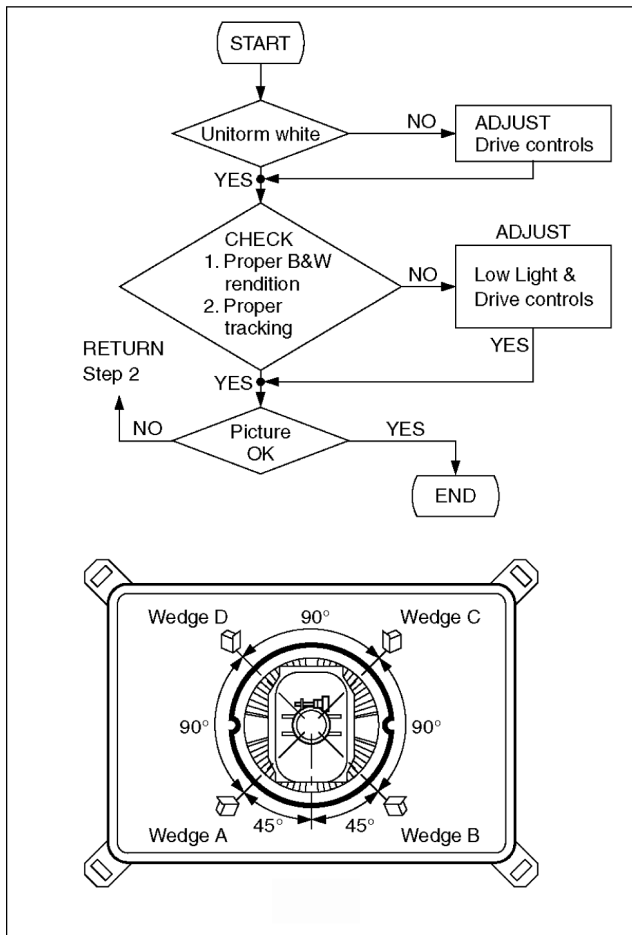

Fig. 15
8. Wedge A shown in Fig. 15 should be fixed within a range of 45° to the left of the vertical line as shown.